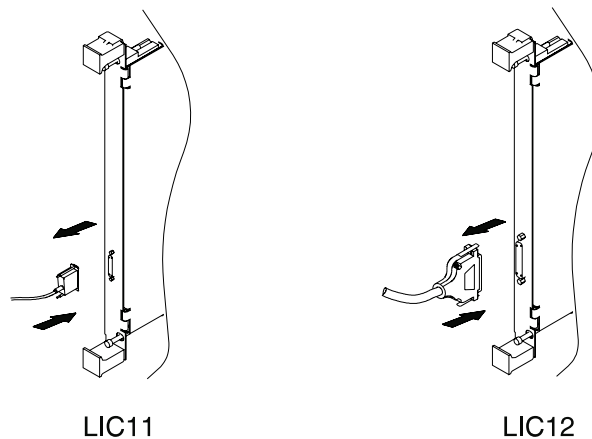

Figure C-7. LIC11, LIC12, and their Cables
**Step 2** Push in the connector and tighten the retaining screws (see Figure C-7).